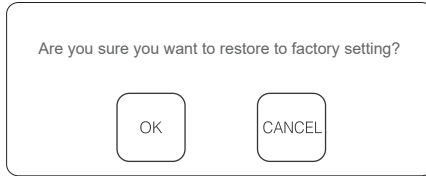

Figure 10
Enter the setting interface, and click the restore factory settings touch button to enter the restore factory settings interface for confirmation. In confirming interface, click OK, the interface shown in Figure 10 will pop up. Select “OK” to restore to original factory settings parameters or select “Cancel” to quit restoring factory settings.
5.7.3 In setting interface, touch key “10” Restore Factory Setting key, click OK to enter interface shown in Figure 10, and decide whether to restore the factory setting by clicking “OK” or “Cancel” key.